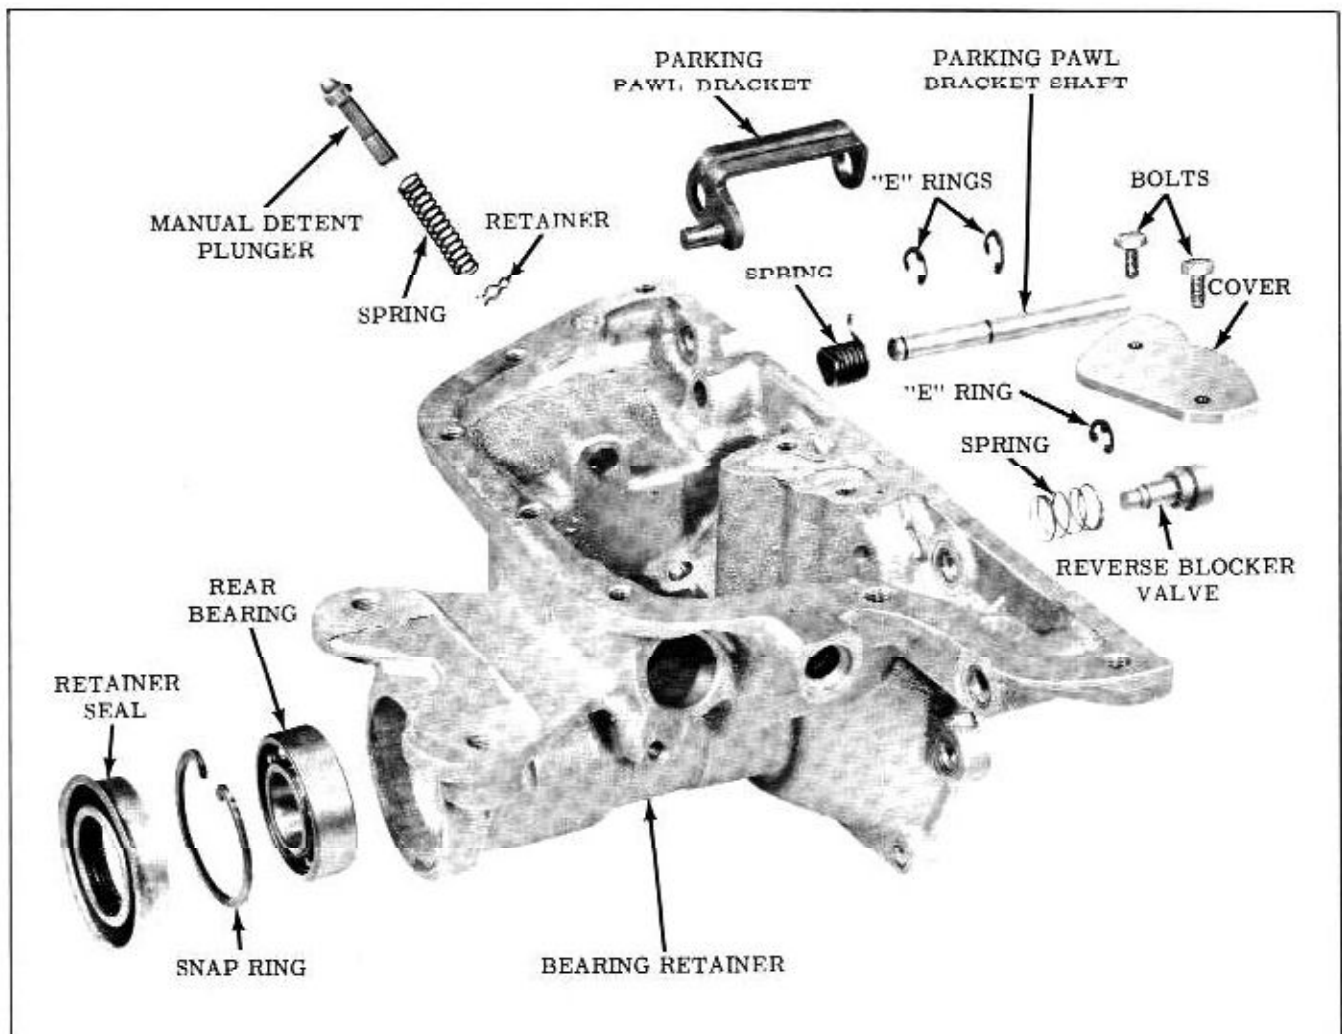

Fig. 3-69 Rear Bearing Retainer Assembly
Rear Bearing Retainer (Fig. 3-69)
3. Remove rear bearing snap ring, and remove bearing. (Fig. 3-69)